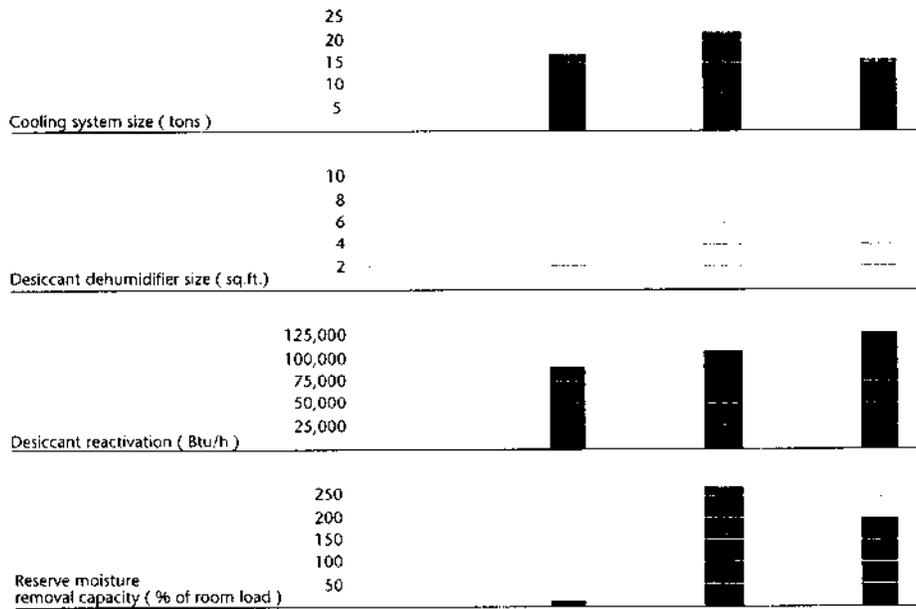

Figure 6-6 (continued, including the facing page right). Courtesy: Munters Corporation, Cargocaire Division.
Figure 6-6 shows a thought process for assessing current dehumidification needs and deciding where and how to use a desiccant system.
**Figure 6-6. Comparing desiccant system options. First, four options are identified (above), then compared on the following pages. Illustration, including text (adapted for use here), is courtesy of Munters Corporation, Cargocaire Division.**